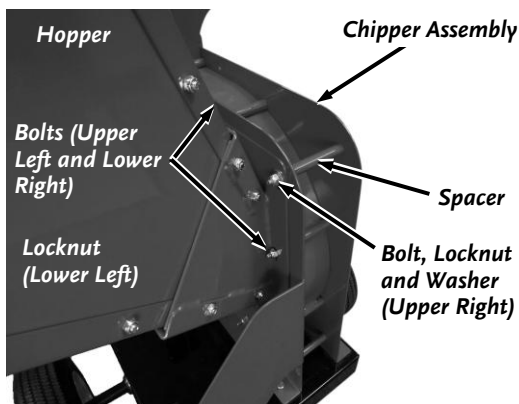

Figure 37a: Pro-475
- a. Remove the Locknut and Washer from the upper right Bolt and lower left Stud of the Hopper (**Figure 37a**). The Bolt can be left in place and make sure the Spacer stays in the location shown.